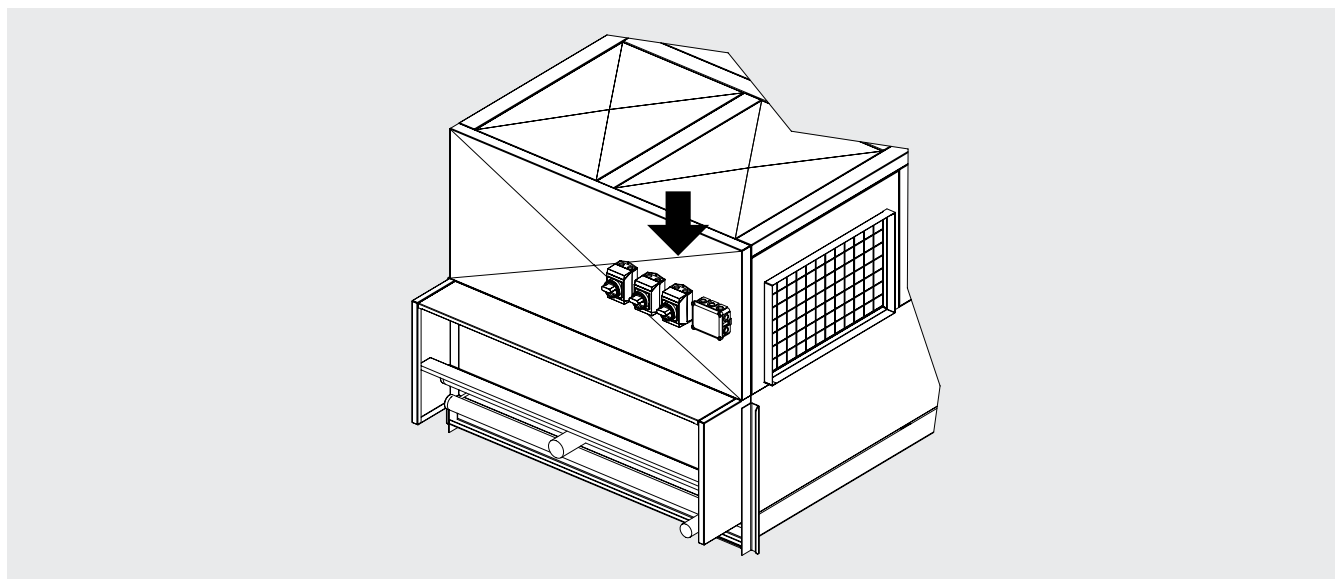

Figure 11
- 9.7 The junction box and any switches for the individual fans are located on the front panel of the model. See Figure 11.